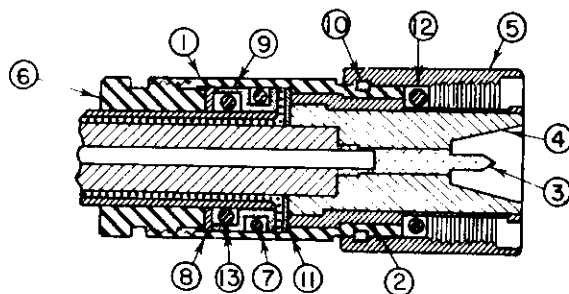

Figure 2
- a. Pass the indicated parts over the cable jacket from the depressed end of the cable in the following order (figure 2):
- (1) Nut, piece 6
- (2) Washer, piece 8
- (3) O-ring, piece 13
- (4) O-ring retainer, piece 9 with O-ring, piece 7 resting in the groove provided.
With the selector switch in the DC position, the red lead of the test cable inserted into the 4V jack and the black lead inserted into the  $\pm$  VOLTS jack, the meter will have a full scale deflection when 4 volts is impressed across it and the circuit will draw 1 milliamperere of current. Figure 2 shows the connections to be made on the front panel of the meter and the internal circuit when the above cable connections have been made. Since the circuit will draw 1 ma, it alone may be used in place of the TS-80/U. With less than 0.6 ma flowing in the circuit, the sensitivity of the TS-297/U drops so that the readings are below 25 on the 0-100 scale. Therefore the 4V jack connection should be limited to readings above 0.6 ma.